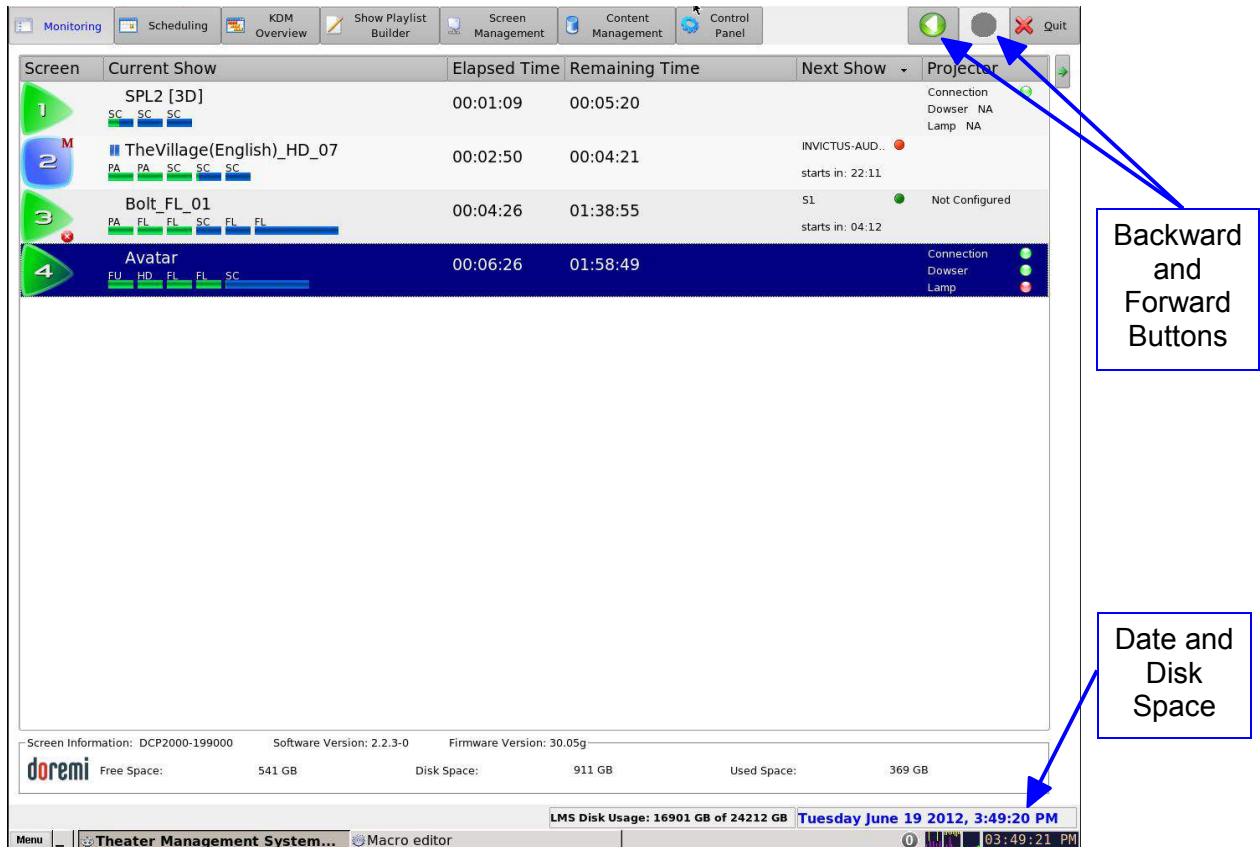

Figure 1: TMS GUI - Monitoring Tab
- The Doremi TMS GUI will appear showing the Monitoring tab as presented below (Figure 1):
- The two buttons on the top right corner with left and right arrow icons are backward and forward functions. They allow the user to go back to the recently viewed tab (Figure 1).
- The bottom of the frame will display the complete date at the right corner and the total disk space and available free space of the LMS. The font color will change to indicate the available free space. A yellow color represents 10-20% and red color represents below 10% of total available free disk space (Figure 1).